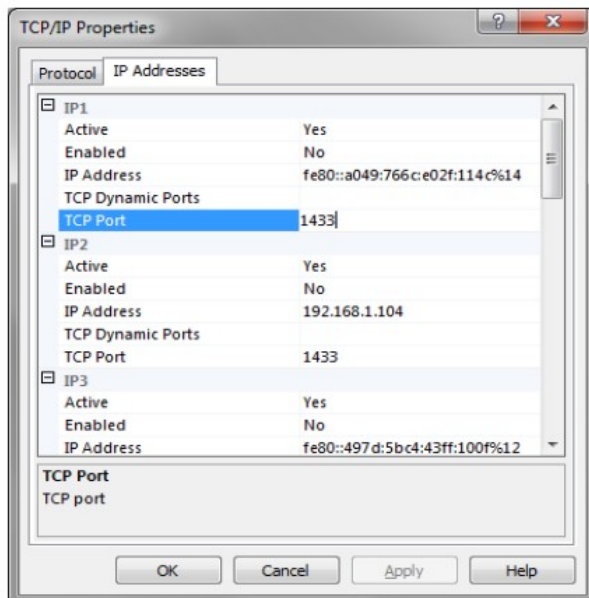

Fig.1.12 TCP/IP Properties
**Step Eleven:** Right click “TCP / IP”, select “IP Address” under “Properties” or double click to open the settings panel and select the “IP Address” tab, then set the port of TCP as “1433”, and click “OK” button. (see Fig.1.12).